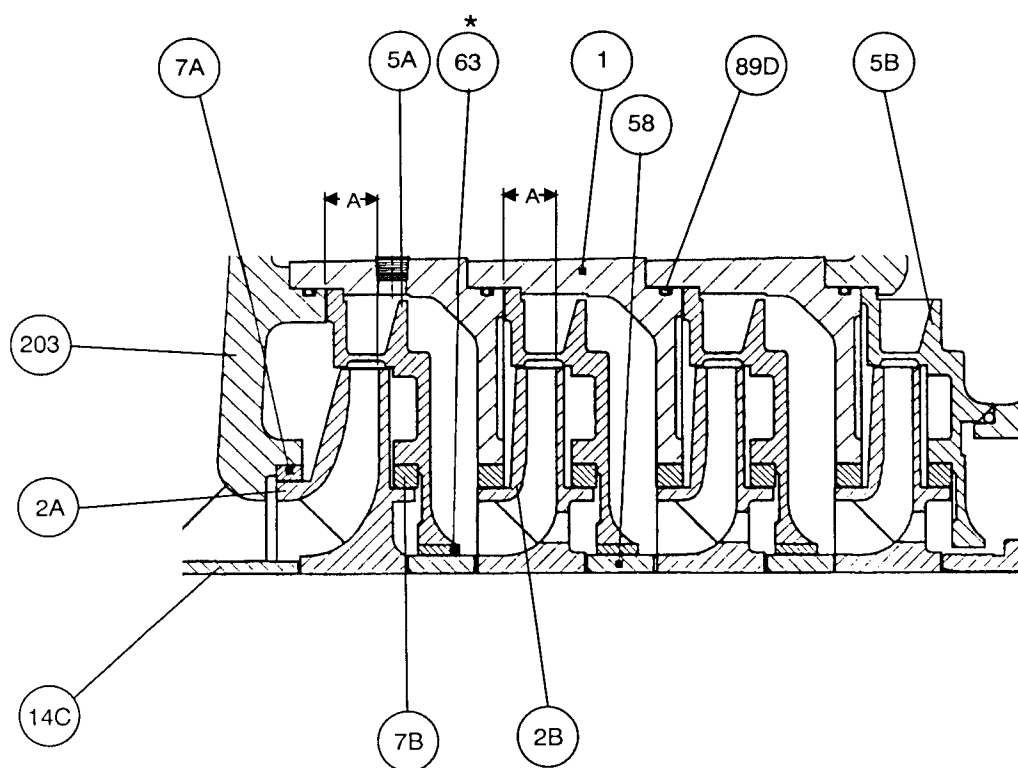

Figure 7A. Axial Alignment of Rotor, WKM-50 and WKM-65
Refer to figure 7A or 7B. Measure distance "A" or "B" from outboard face of suction casing (203) to inside of first stage impeller's (2A) back shroud. Compare measured distance to dimensions given in table 8. Carver Pump Company recommends that this dimension be within .015 inches. If shimming is required, install shim between impeller and spacer sleeve (14C). For each stage measure distance "A" or "B" from inboard face of diffuser (5A or 5B) to inside of impeller's (2B) back shroud. If shimming is required, install shim between impeller (2B) and interstage sleeve (58).